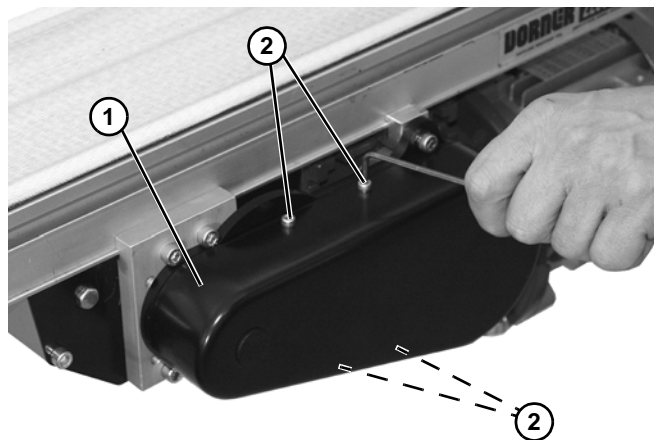

Figure 8
9. Install cover (**Figure 8, item 1**) onto drive assembly with four M4 socket head screws (**Figure 8, item 2**). Tighten screws to 35 in-lb (4 Nm).